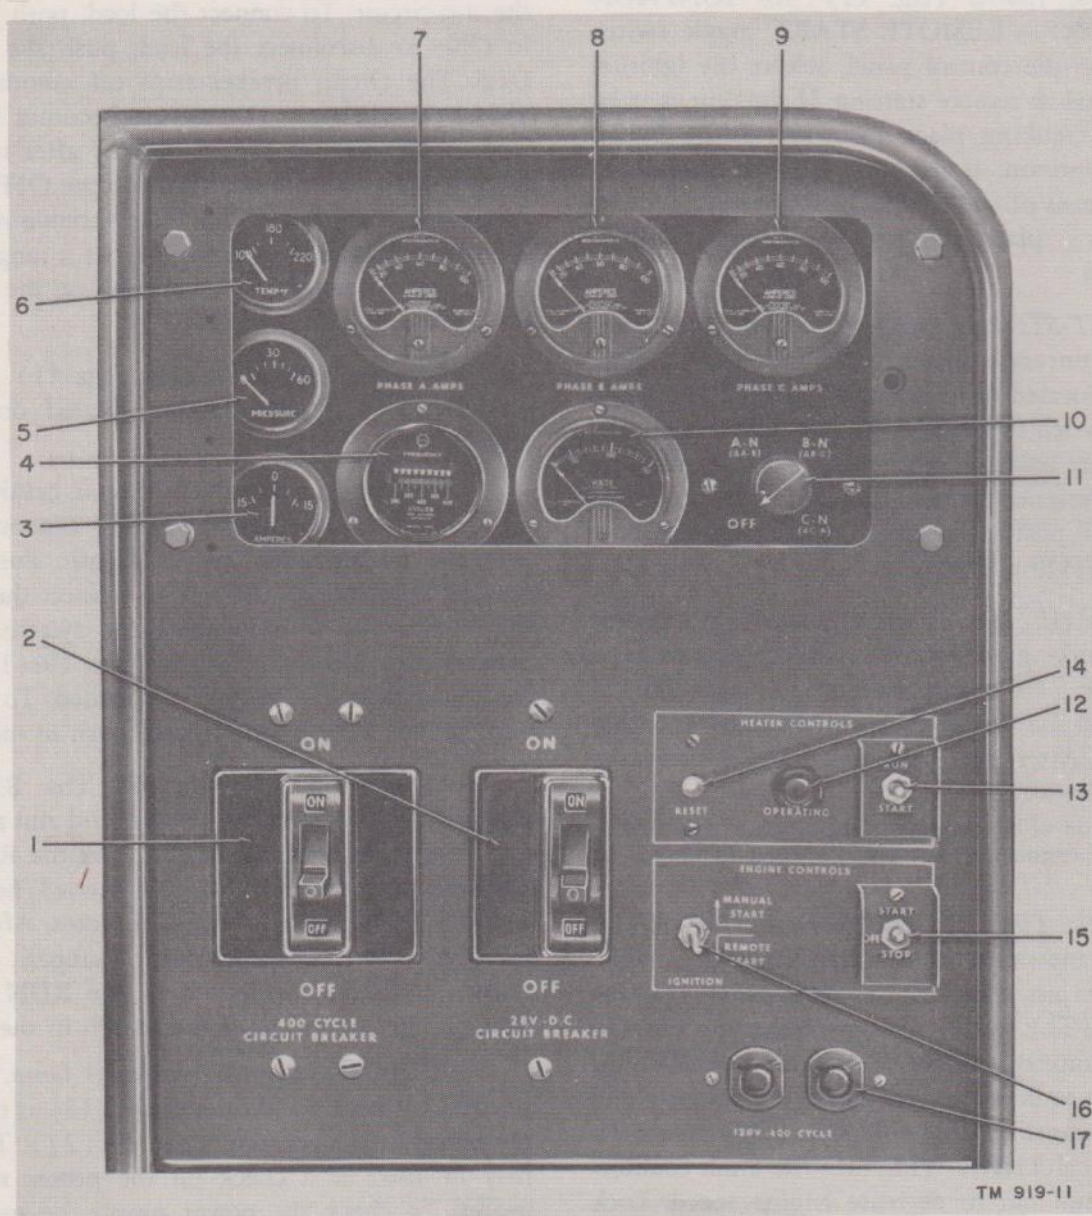

Figure 11. Instrument and control panel.
(1) *Ignition switch* (fig. 11). An IGNITION MANUAL START — REMOTE START toggle switch (16), located on the control panel, selects the ignition circuit for manual or remote starting. If the unit is to be started by hand cranking, place the switch in the MANUAL START position; if the unit is to be started remotely or by means of the START—STOP switch (subpar. (2) below), place the switch in the REMOTE START position.
(2) *START-STOP switch* (fig. 11). The three-position, momentary-contact START—STOP toggle switch (15) is located on the control panel. To start the unit, hold the switch in the START position; to stop the unit, momentarily hold the switch in the STOP position. The switch is designed so that the actuating handle returns to the OFF position (center) when released from the START or STOP position.
b. *D-C GENERATOR.* Two manual controls are used in conjunction with the d-c generator: a circuit breaker and a variable voltage resistor. The 28V.-D.C. CIRCUIT BREAKER (2, fig. 11), mounted on the control panel, serves as the main load switch and the overload trip in the d-c circuit. To connect the load, push the trip lever to ON; to disconnect the load, push the trip lever to OFF. The circuit breaker trips off automatically (par. 19b(1)) whenever the circuit becomes heavily overloaded. To reset the circuit breaker after it has tripped, push the lever all the way down to the OFF position and then up to the ON position. The variable resistor on the d-c voltage regulator (5, fig. 4) has a range of from 25 to 30 volts. Turn the control knob on the resistor until the desired output is reached.
c. *WINTERIZATION SYSTEM* (fig. 11). All the winterization system controls are located on the control panel.
(1) *Circuit breaker.* The circuit breaker (RESET) (14) is used as the main switch to connect and disconnect the winterization system circuit. Push the circuit breaker button in all the way to connect the system; pull the button out to disconnect the system. The circuit breaker trips off automatically (par. 19c(1)) whenever the circuit becomes heavily overloaded. To reset the circuit breaker after it has tripped, push in the button.
(2) *RUN—START switch.* The RUN—START toggle switch (13) serves to start and run the winterization heater. To start the heater, after the RESET button has been pushed in (subpar. (1) above), hold the switch in the START position 2 to 4 minutes. After the heater OPERATING indicator lamp (subpar. (3) below) flashes on, place the switch in the RUN position. To shut off the heater, place the switch in the off position.
(3) *Heater operating indicator lamp.* The primary purpose of the red indicator lamp (12) is to show when the heater is in operation (par. 19c(2)). The lamp also may be used as a check on the power supply to the heater. To check the power supply, be sure the circuit breaker button (subpar. (1) above) is in all the way. Then press the lamp. If power is available, the lamp will glow.
(1) *Circuit breaker* (fig. 11). The 400 CYCLE CIRCUIT BREAKER (1), mounted on the control panel, serves as the main load ON—OFF switch and the overload trip in the a-c circuit. To connect the load, push the trip lever to ON; to disconnect the load, push the trip lever to OFF. The circuit breaker trips off auto-
e. *MISCELLANEOUS* (fig. 11). The 120V.-400 CYCLE duplex receptacle (17), mounted on the control panel, serves as a means of connecting external power for trouble shooting lamps, fans, etc., requiring 120-volt,
(1) *Circuit breaker* (fig. 11). The 28V.-D.C. CIRCUIT BREAKER (2), mounted on the control panel, is designed to trip automatically if the circuit becomes heavily overloaded. The thermal trip release is factory-set for time-delay operation and the breaker is sealed. To reset or manually operate the circuit breaker as a load switch, refer to paragraph 18b.
(1) *Circuit breaker* (fig. 11). The circuit breaker (14) trips automatically when the heater circuit becomes heavily overloaded. For use as a master switch and for the method of resetting, refer to paragraph 18c(1). The push-button type circuit breaker is mounted on the control panel and is designated RESET.
(2) *Heater operating indicator lamp* (fig. 11). The heater OPERATING indicator lamp (12), mounted on the control panel, indicates when the heater is operating. The lamp will glow when the heater is burning on either high or low fire, or after the heater has been turned off and is purging itself of fuel. To operate the lamp as a check on the winterization system power supply, refer to paragraph 18c(3).
(1) *Circuit breaker* (fig. 11). The 400 CYCLE CIRCUIT BREAKER (1), mounted on the control panel, is designed to trip automatically if the circuit becomes heavily overloaded. The thermal trip release is set at the factory for time-delay operation and the breaker is sealed. To reset or manually operate the circuit breaker as a load switch, refer to paragraph 18d(1).
a. ENGINE INSTRUMENTS (fig. 11). All the engine instruments are located on the instrument panel.
(1) *Oil pressure gage*. The oil pressure gage (5) indicates the pounds per square inch of oil pressure being delivered to the engine bearings. The gage is of the electric type and will not operate unless the batteries
(2) *Coolant temperature gage.* The coolant temperature gage (6) indicates the temperature of the engine coolant. The gage is of the electric type and will not operate unless the batteries are connected. The scale reading on the gage is from 100° F to 220° F. Normal engine operating temperature is 170° F. If, after warm-up, abnormal temperature is indicated on the gage, proceed as follows: Check the coolant and engine oil level; check the water pump, fan, fan belt, and thermostatic valve for proper operation. Never operate an overheated engine.
(3) *D-c ammeter.* The d-c ammeter (3) indicates the rate, in amperes, at which the batteries are being charged by the selenium rectifier and transformer. The scale reading of the ammeter is from -15 to +15 amperes. At normal operating speed, the ammeter should indicate a charging rate of 1/2 to 5 amperes when the batteries are charged fully. If the batteries are low, the charging rate will be higher. When the heater is operating, the ammeter will show a negative reading. Negative readings also may indicate that the battery leads are reversed or that there is a short circuit in the system. No reading on the ammeter indicates a faulty charging system or a loose or broken connection.
b. ALTERNATOR INSTRUMENTS (fig. 11). All the alternator instruments are located on the instrument panel.